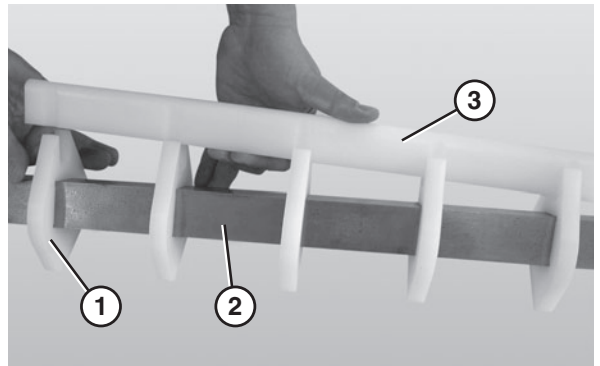

Figure 85
1. Slide the nose bar pucks (**Figure 85, item 1**) onto the nose bar drive post (**Figure 85, item 2**).
2. Attach the nose bar wear strip (**Figure 85, item 3**).